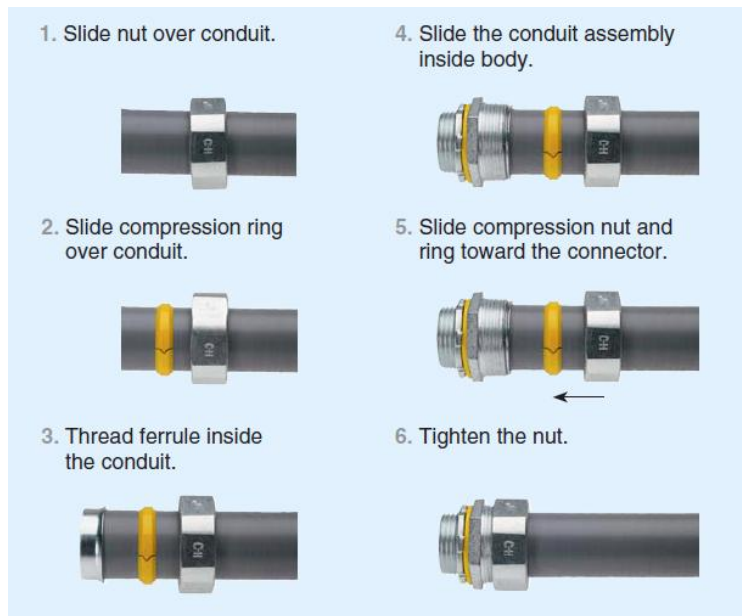

Figure 3-5. Liquid Tight Fitting Installation
- Install Liquid Tight conduit fittings (see Figure 3-5).